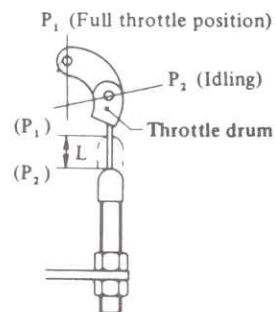

Fig. 7.9 Kickdown (throttle) cable movement diagram (Sec 7)
- 4 Check that the throttle cable end fitting movement L is within the specified tolerances (see Fig. 7.9).